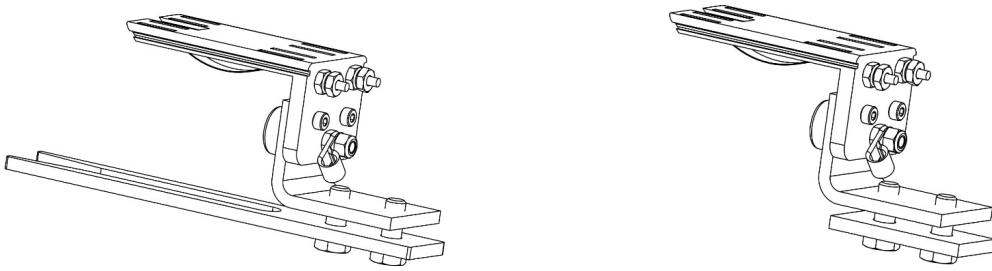

Figure 47: Configuration for Ceiling Lift Charging Contact (Left) and Configuration for Gantry Charging Contact (Right)
- c. On the charger endstop assembly of the parallel track, exchange the finger guard with the track endstop plate supplied with the X/Y Gantry Trolley (Figure 47).